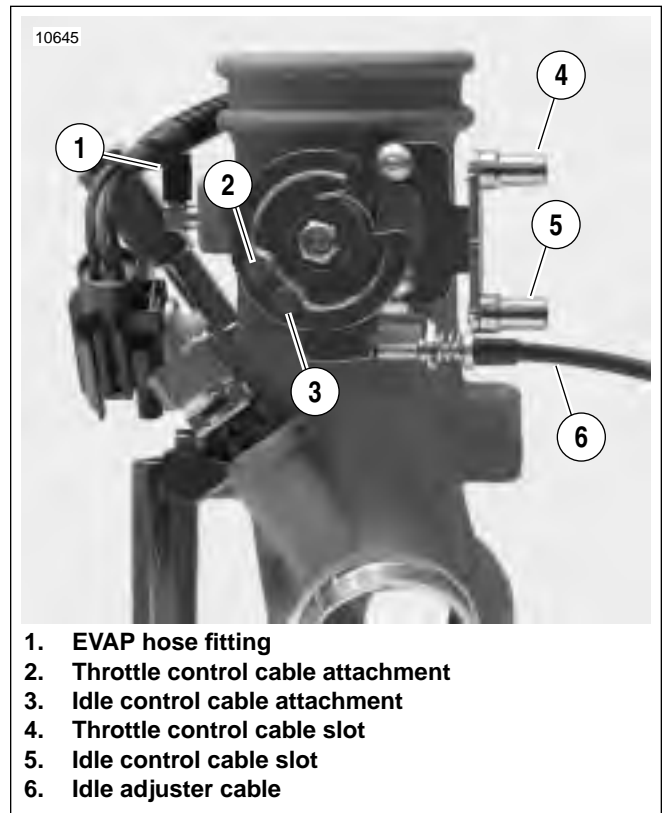

Figure 4-103. Throttle Cable Bracket (typical)
4. See Figure 4-103. On California models, pull EVAP hose from fitting (1).